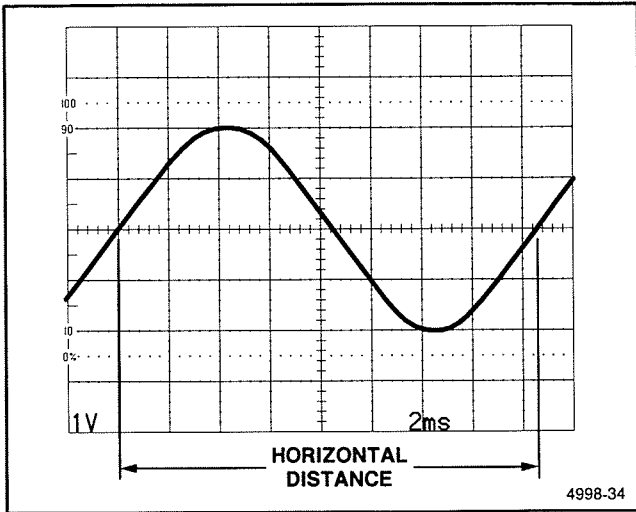

Figure 6-21. Time duration.
5. Position the display to place the time-measurement points on the center horizontal graticule line (see Figure 6-21).
**EXAMPLE:** The distance between the time-measurement points is 8.3 divisions (see Figure 6-21), and the A SEC/DIV switch is set to 2 ms. The X10 Magnifier switch is pushed in (1X magnification).
**EXAMPLE:** The signal in Figure 6-21 has a time duration of 16.6 ms.